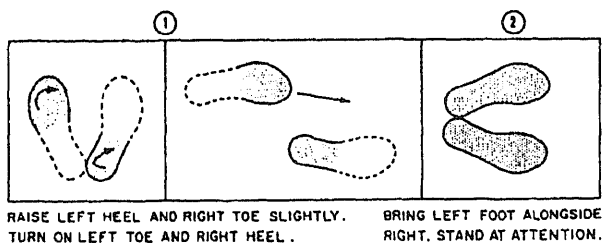

Figure 11-4.—Right Face.
**RIGHT FACE:** Right face (fig. 11-4) is a two-count movement started on the commands Right, FACE. On the command FACE: (1) Raise your left heel and right toe slightly and turn 90 degrees to the right. Keep your